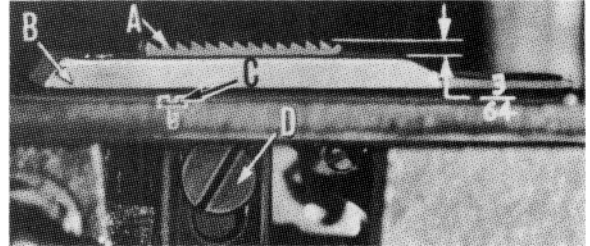

Fig. 9
For Styles 53100 A, B, C and D, set the feed dog (A, Fig. 9) in the throat plate (B) so there is equal clearance on all sides. See that the tips of the teeth are parallel with and $\frac{3}{64}$ inch above the throat plate at high point of travel. Adjust the supporting screw (C), under the feed dog, to maintain this setting. Screw (D) is used to hold feed dog in position.